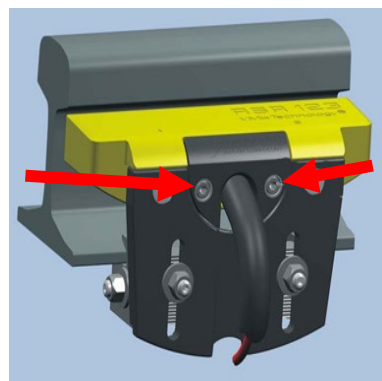

Figure 2 - Allen Screws
- 2.1 Measure the distance between the wheel sensor top surface and top of rail (distance "A" as shown in Figure 2). This shall be between 40 and 45mm. Adjust height if required. The measurement shall be consistent along the entire length of the wheel sensor.
2.2 Measure the distance between the wheel sensor inside edge and inside edge of the of rail head (distance “B” as shown in Figure 2). The wheel sensor is positioned slightly below and under the head of the rail. The measurement shall be between 0mm and 6mm. Adjust as required. The measurement shall be consistent along the entire length of the wheel sensor.